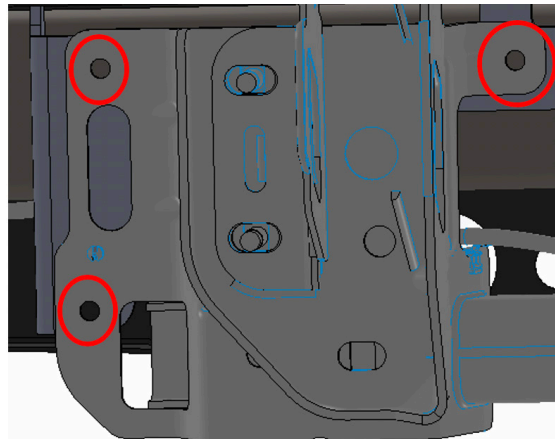

Figure 3a
5. Remove the 10 bolts that are accessible from behind the trailer hitch using a 13mm socket. (Figure 3a-c)